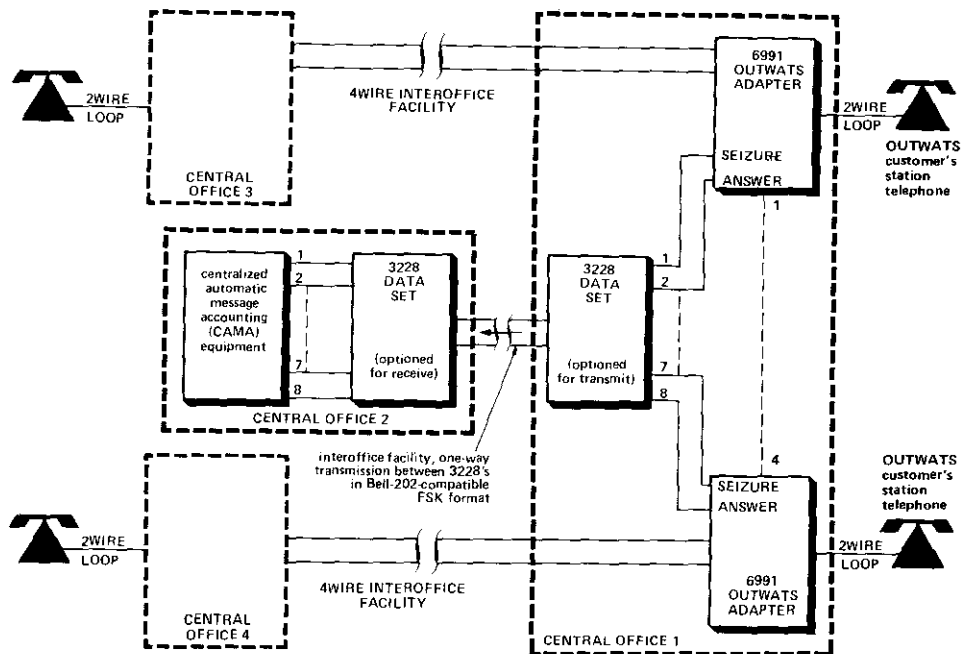

figure 4. Time-of-day billing application for 6991 OUTWATS Adapter
2.03 Another application of the 6991 is in a time-of-day billing system for WATS customers (as required by the FCC). One way to implement this system is by using one or more 6991 OUTWATS Adapters in conjunction with Tellabs 3228 Data Sets, as shown in figure 4. The 6991's seizure and answer (usage-metering) leads are routed to the 3228 Data Set, which transmits the usage-metering data via an interoffice facility to another 3228 at the other end. The usage-metering data (including time-of-day usage) can then be analyzed by the centralized automatic message accounting (CAMA) equipment.